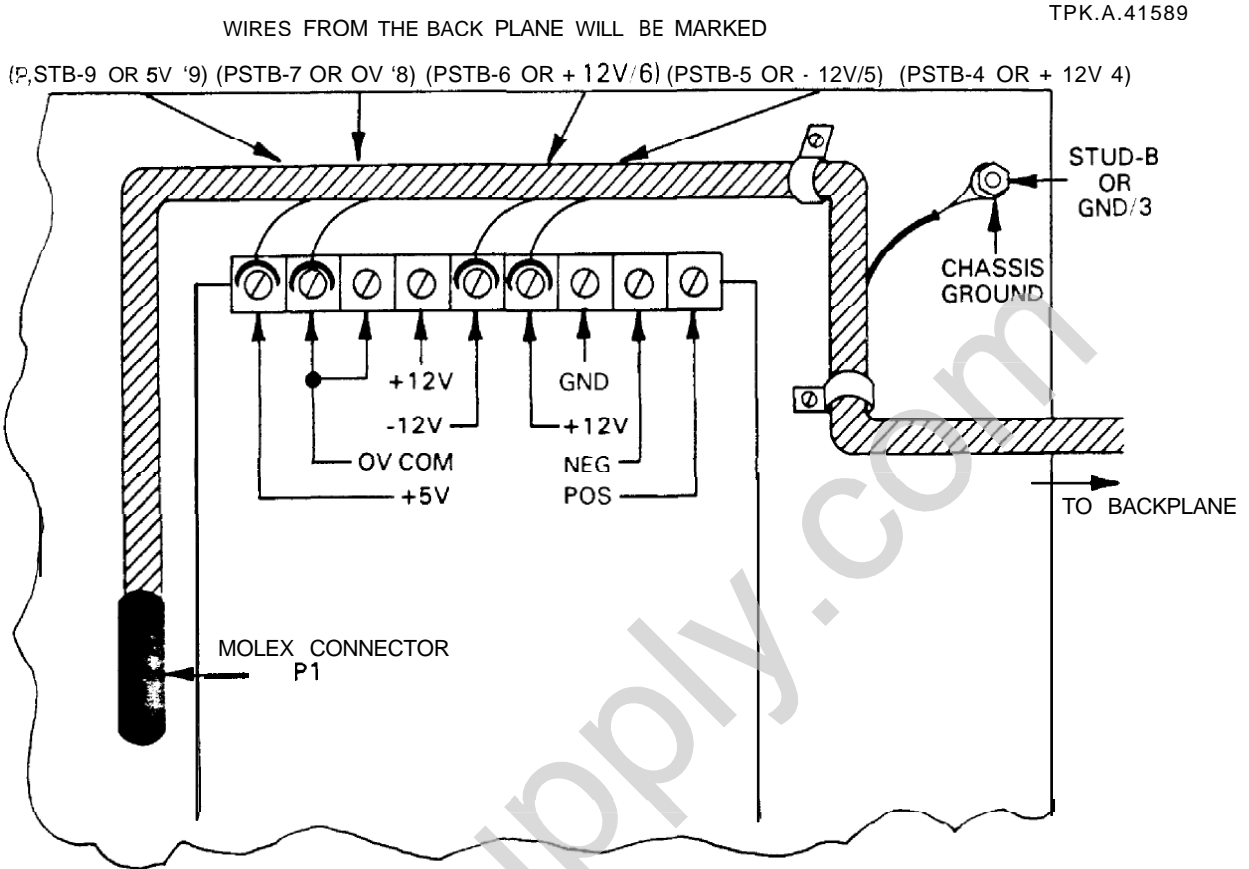

FIGURE 2. POWER SUPPLY EXTERNAL WIRING DIAGRAM
- 1 Internal Terminal Strip (Refer to Figure 2)
10. Take the replacement power supply and attach the wires as shown in Figure 2. Be sure to connect the 18-pin molex connector (P1) to the power supply. Attach the wire clamp on the upper stud of the power supply frame, or if there is a clamp already there, wrap the wires in it.